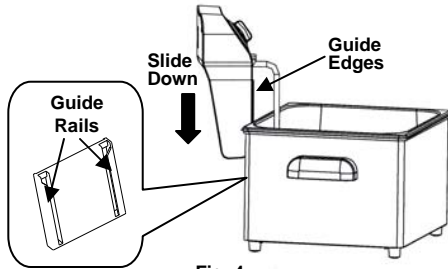

Fig. 4
2. Insert the guide edges on the control panel into the guide rails mounted on the metal body. (Fig. 4)